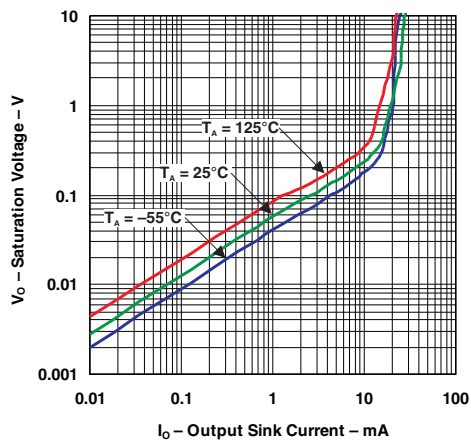

Figure 3. Output Saturation Voltage
- $R_{CE}$  can be determined by taking the slope of Figure 3 in its linear region at the desired temperature, or by dividing the  $V_{OL}$  by  $I_{OUT}$